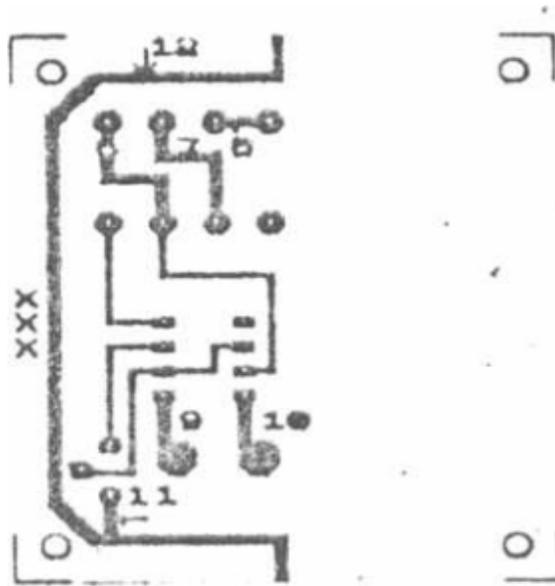

Figure 4.
(viii) Press 'PEN OFF' 'N', and select 1.3 mm track width, ([SS]W), attempt to draw the tracks 6 to 11 shown on figure 4 below.
- (i) Draw in track 12 as shown in figure 4 overleaf: Use a pen width of 1.3 mm, as in the last part of lesson 3; Ensure that track 12 contains no gaps otherwise when the 'FILL' command is invoked, the ink will leak into the rest of the drawing.
- (ii) Select 'PEN OFF','N', and move the cursor inside track 12 loop, (eg. position 'xxx' in figure 4. )